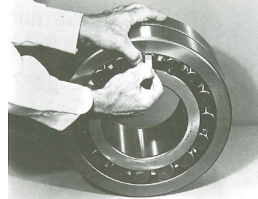

Figure 1 - Measurement of Internal Clearance
2. Measure the internal clearance of the bearing before mounting. Place the bearing in an upright position as shown in Figure 1. Seat the inner ring and roller elements by pressing down firmly on the inner ring bore while rotating the inner ring a few times. Position the roller assemblies so that a roller is at the top most position on each side. Press these top rollers inward ensuring contact with center guide flange. Using a feeler gauge measure the clearance for both sides by inserting as far as possible and sliding over top of roller (Figure 1). Write down the measured clearance for use in Step 3d. **NOTE:** Do not rotate bearing when moving feeler between roller and outer ring. Use a sawing motion of feeler to check radial clearance.